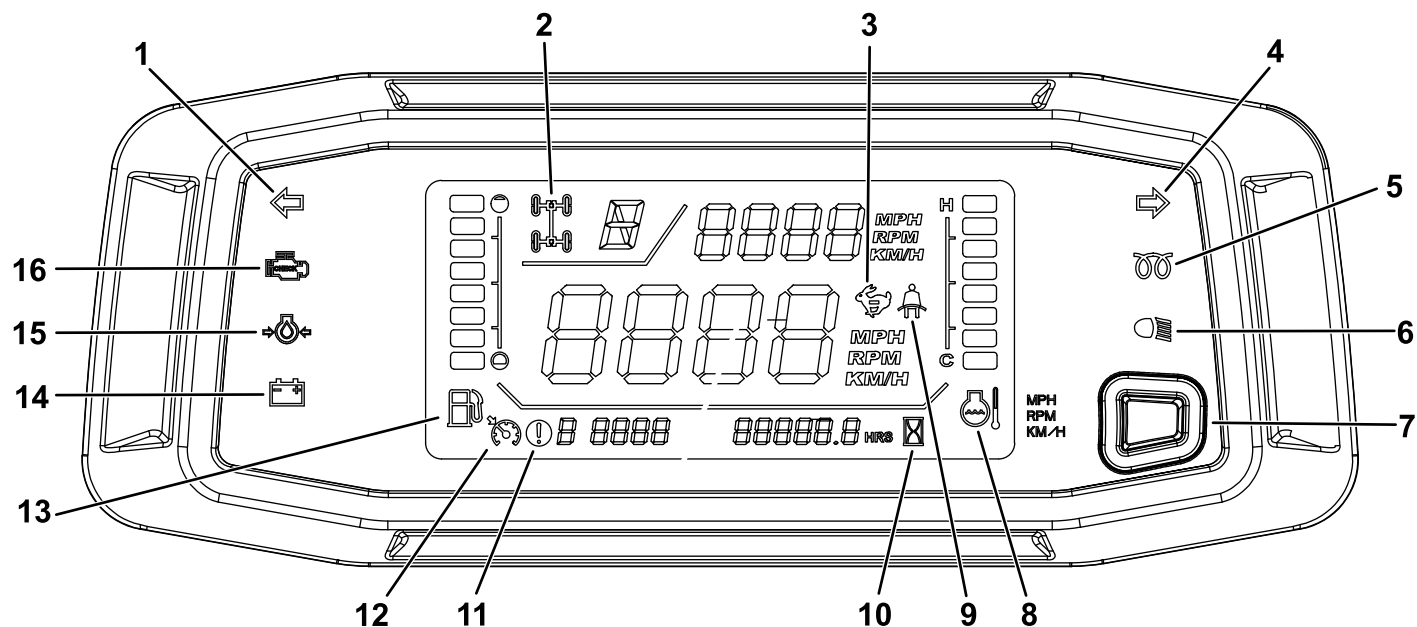

Figure 37
The left or right turn-signal blinks when you press the turn-signal switch to the left or right (Figure 37).
**Note:** When the indicator (Figure 37) is blinking it means that the setting is not engaged/inactive; when it becomes solid, it is engaged/active.
If the cruise control is set, the indicator illuminates (Figure 37).
The glow-plug indicator light (Figure 37) illuminates when you turn the key switch to the ON position and the glow plug is activated.
The hour meter indicates the total hours of machine operation. The hour meter (Figure 37) starts to function whenever the engine is running.
The oil-pressure-warning light (Figure 37) illuminates if the engine-oil pressure drops below a safe level while the engine is running.
The coolant-temperature gauge registers the coolant temperature in the engine and operates only when the key switch is in the ON position (Figure 37).
The charge indicator illuminates when the battery discharges. If the light illuminates during operation, stop the machine, shut off the engine, and check for possible causes, such as the alternator belt (Figure 37).
The fuel gauge shows the amount of fuel in the tank. It displays only when key switch is in the ON position (Figure 37).
The tachometer displays the speed of the engine (Figure 37).
The speedometer registers the ground speed of the machine (Figure 37).
Press the button (Figure 37) between 0 to 3 seconds to swap the locations of tachometer and speedometer.
Press and hold the button (Figure 37) between 3 to 10 seconds to convert the speedometer from mph to km/h.